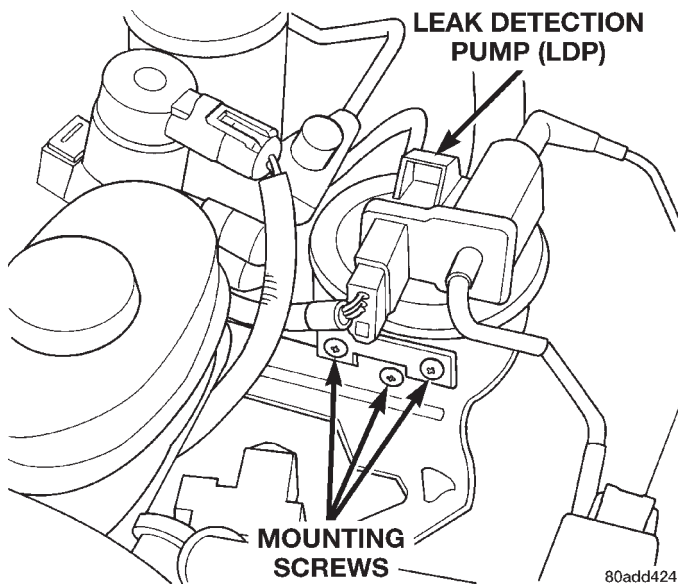

Fig. 10 Leak Detection Pump (LDP) Mounting Screws
- (1) Carefully remove vapor/vacuum lines at LDP.
- (2) Disconnect electrical connector at LDP.
- (3) Remove LDP filter mounting bolt.
- (4) Remove 3 LDP mounting screws (Fig. 10) and remove from vehicle.
- (5) Carefully separate hose at bottom of LDP filter.